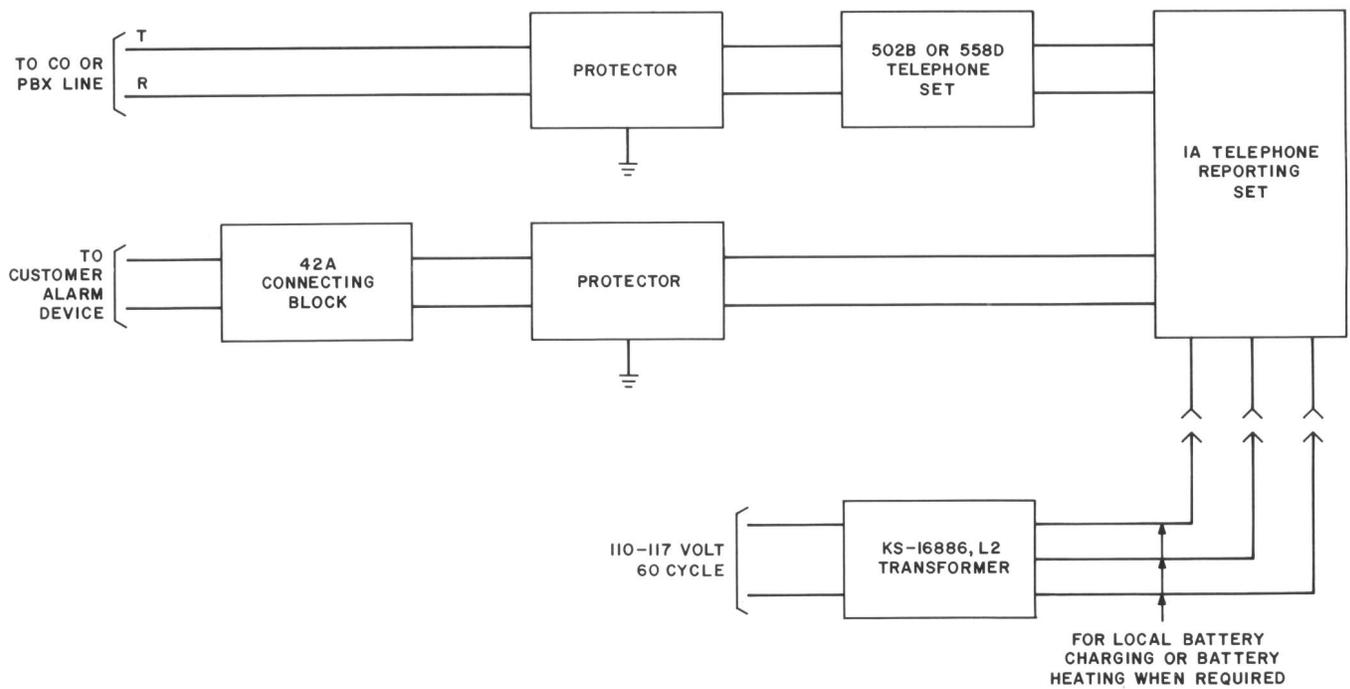

Fig. 6 — ART, Block Diagram
3.04 Provide a 42A connecting block for the customer's input signal leads (Fig. 6). Install a station protector in the line connecting the 42A block to the ART.